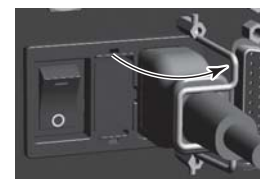

Fig. 11
- (3) Secure the Power Cord Connector by use of Power Cord Hook ⑫ (Refer to Fig. 11).